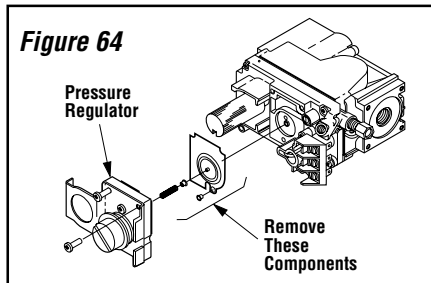

Figure 64
**Step 4.** Refer to **Figure 64** and the instructions provided with the kit. Using a Torx T20, remove and discard the three pressure regulator mounting screws. Remove the pressure regulator, spring, poppet, diaphragm and bushing. **Discard all removed components.** Ensure the rubber gasket installed on the back of the replacement pressure regulator is properly positioned and install the new pressure regulator using the new screws supplied with the kit. Tighten screws to 25 In. lb. torque.